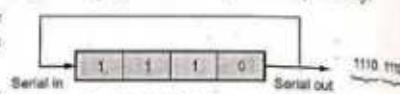

Fig. 5.8.17 4-bit sequence generator
- The Fig. 5.8.17 shows the basic block diagram of a sequence generator.